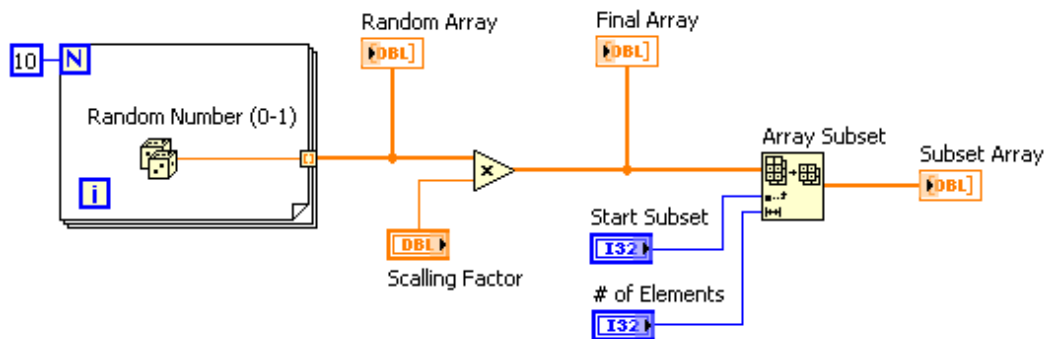

Figure 5.8
1. Build the block diagram shown in Figure 5.8.